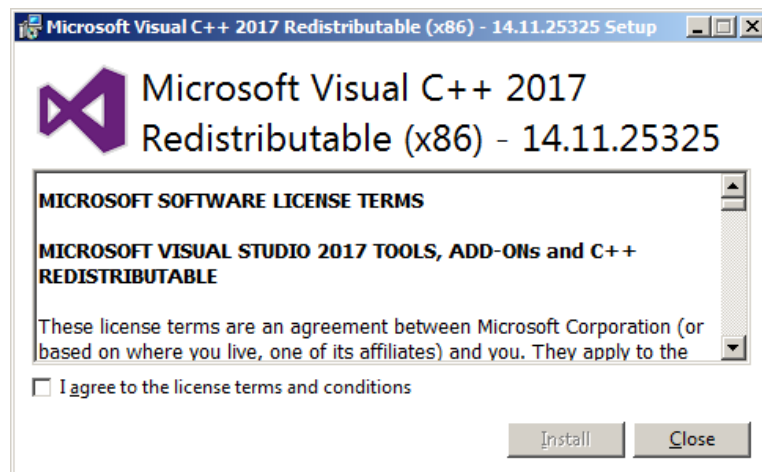

Figure 38
- After a short delay, the **Microsoft Visual C++ 2017 Redistributable (x86)** window may appear, see Figure 38 below: